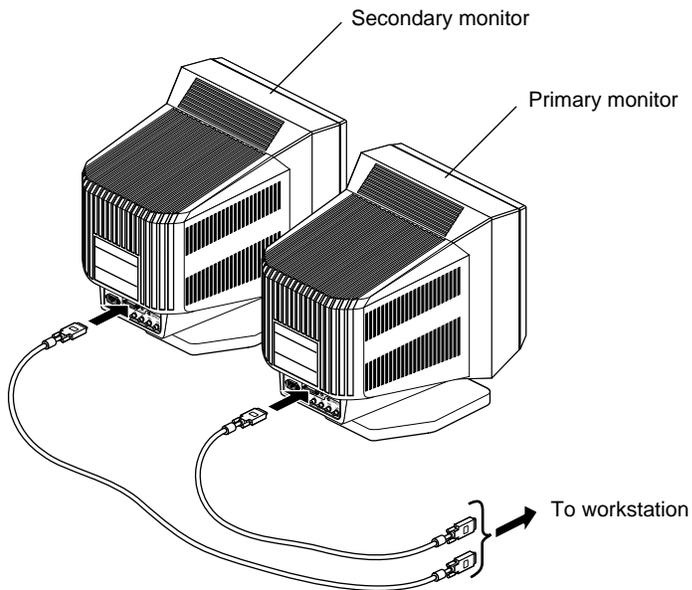

Figure 2-2 Placing the Monitors Side by Side
2. Connect one end of each video cable to the connector on the back of each monitor. Connect and tighten the thumbscrews on both sides of the connectors (Figure 2-2).